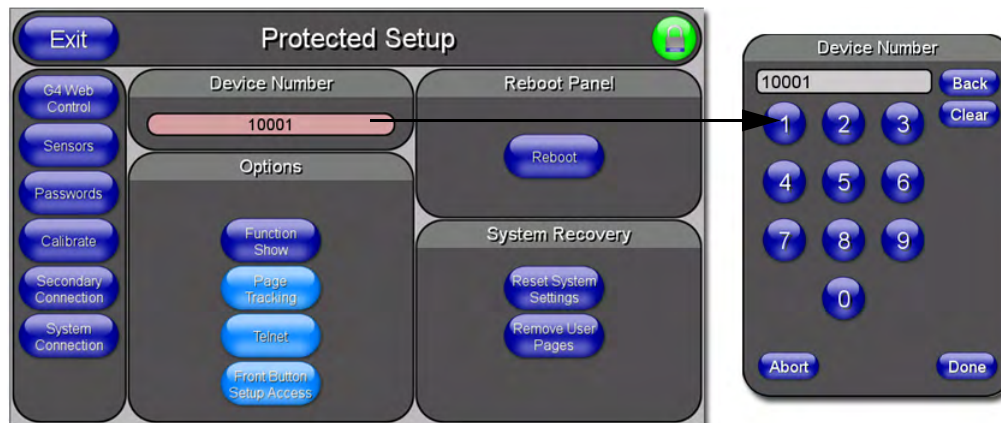

FIG. 30 Protected Setup page
4. Press the red **Device Number** field to open the Device Number keypad (FIG. 30).